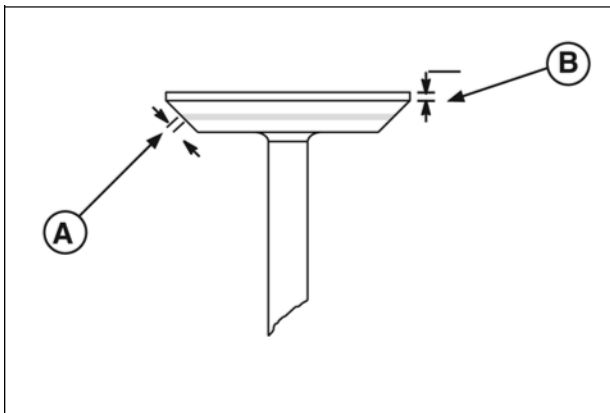

Figure 17
10. Valve faces may be resurfaced to 30°. Check valve seat dimensions before resurfacing. (A, Figure 17) should be 0.05 - 0.06" (1.2 - 1.6mm) and (B) should be at least 0.0312".